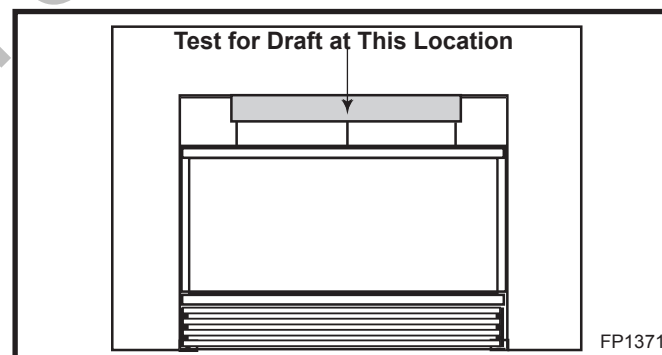

Fig. 11 Hold an ignited match in front of fireplace.
This insert is equipped with a draft-relief opening which receives its dilution air supply through the opening behind the louvres. These openings must not be obstructed or altered in any way. (Fig. 11)
3. Hold an ignited match or cigarette in front of the unit. Refer to Figure 11 for the location of the draft hood opening.